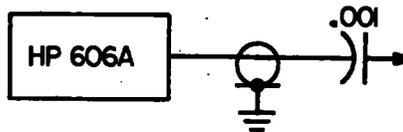

FIGURE 6-27 IF SIGNAL INPUT
- b. Inject a 140KHz signal mod. 1000Hz, 30% thru a .001 μ f capacitor (Fig. 6-27) to various points in IF Ampl. as indicated by Table 6-3.